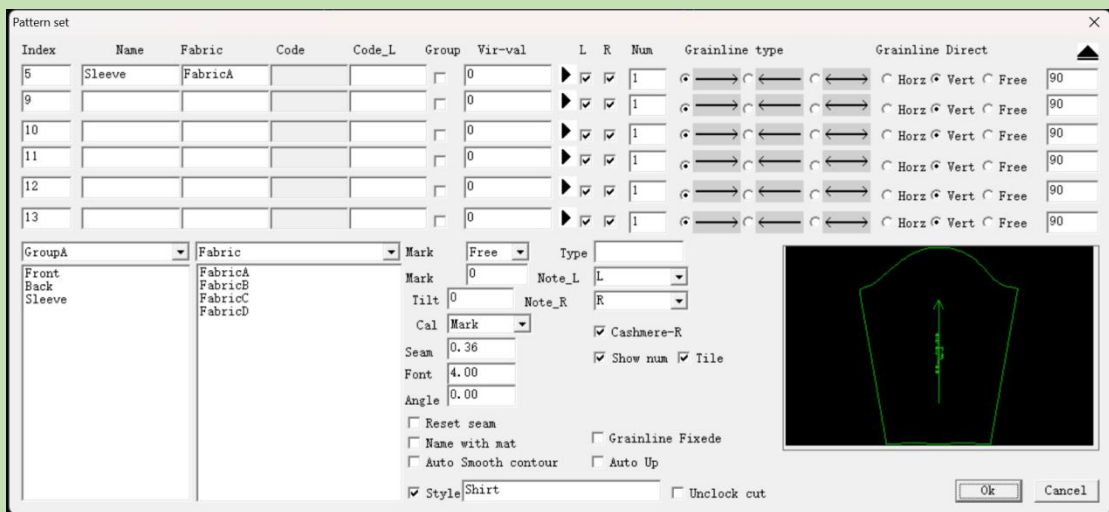

Figure10-2
- (1) Edit: Open the pattern piece setting window to modify the information of the pattern pieces as shown in Figure 10-2.